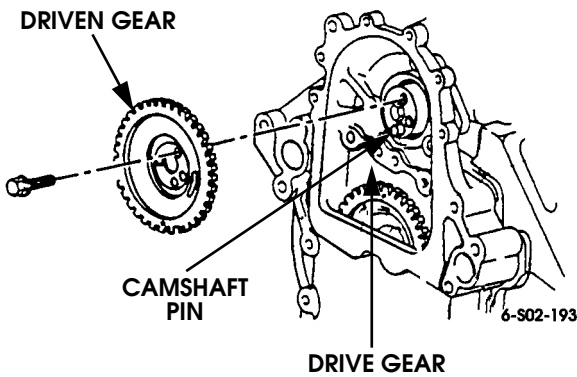

Figure 2-195: Pump Driven Gear Installation
7. Align timing mark on injection pump driven gear with timing mark on drive gear (Figure 2-195).